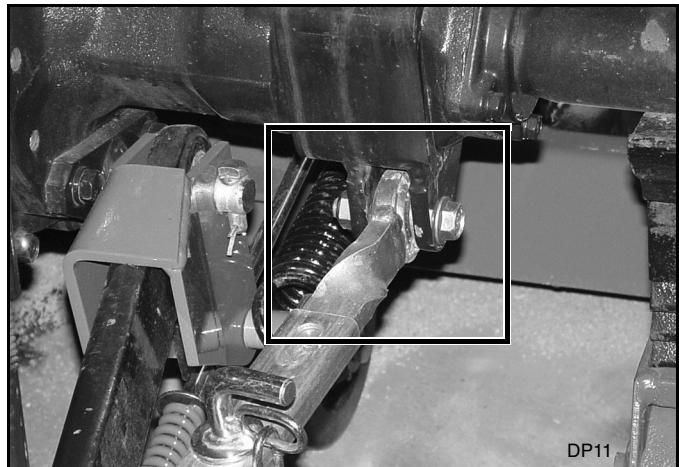

Figure 1. Remove Front Half of Anti-Sway Link Bars
2. Disconnect the anti-sway bars (Figure 1) from the anti-sway brackets and remove front half. Store front half of anti-sway bars for later use when backhoe is removed.